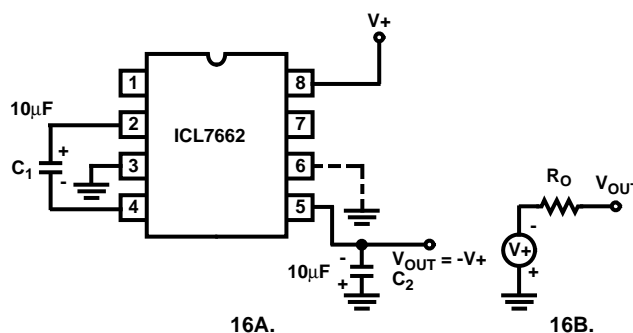

FIGURE 16. SIMPLE NEGATIVE CONVERTER AND ITS OUTPUT EQUIVALENT
The majority of applications will undoubtedly utilize the ICL7662 for generation of negative supply voltages. Figure 16 shows typical connections to provide a negative supply where a positive supply of +4.5V to 20.0V is available. Keep in mind that pin 6 (LV) is tied to the supply negative (GND) for supply voltages below 10V.
Figure 23 combines the functions shown in Figure 16 and Figure 22 to provide negative voltage conversion and positive voltage doubling simultaneously. This approach would be, for example, suitable for generating +9V and -5V from an existing +5V supply. In this instance capacitors C1 and C3 perform the pump and reservoir functions respectively for the generation of the negative voltage, while capacitors C2 and C4 are pump and reservoir respectively for the doubled positive voltage. There is a penalty in this configuration which combines both functions, however, in that the source impedances of the generated supplies will be somewhat higher due to the finite impedance of the common charge pump driver at pin 2 of the device.